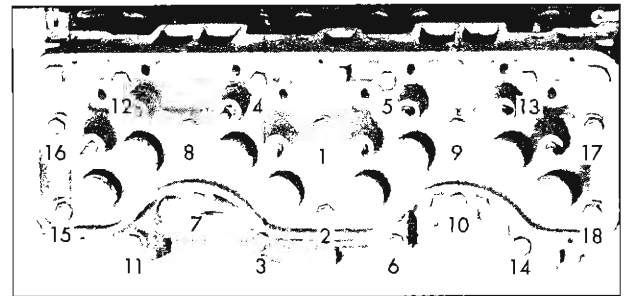

Fig. 133—Head Bolt Torque Sequence
5. Tighten the cylinder head bolts a little at a time in the order shown (fig. 133). The final tightening should be 60-70 ft. lbs.